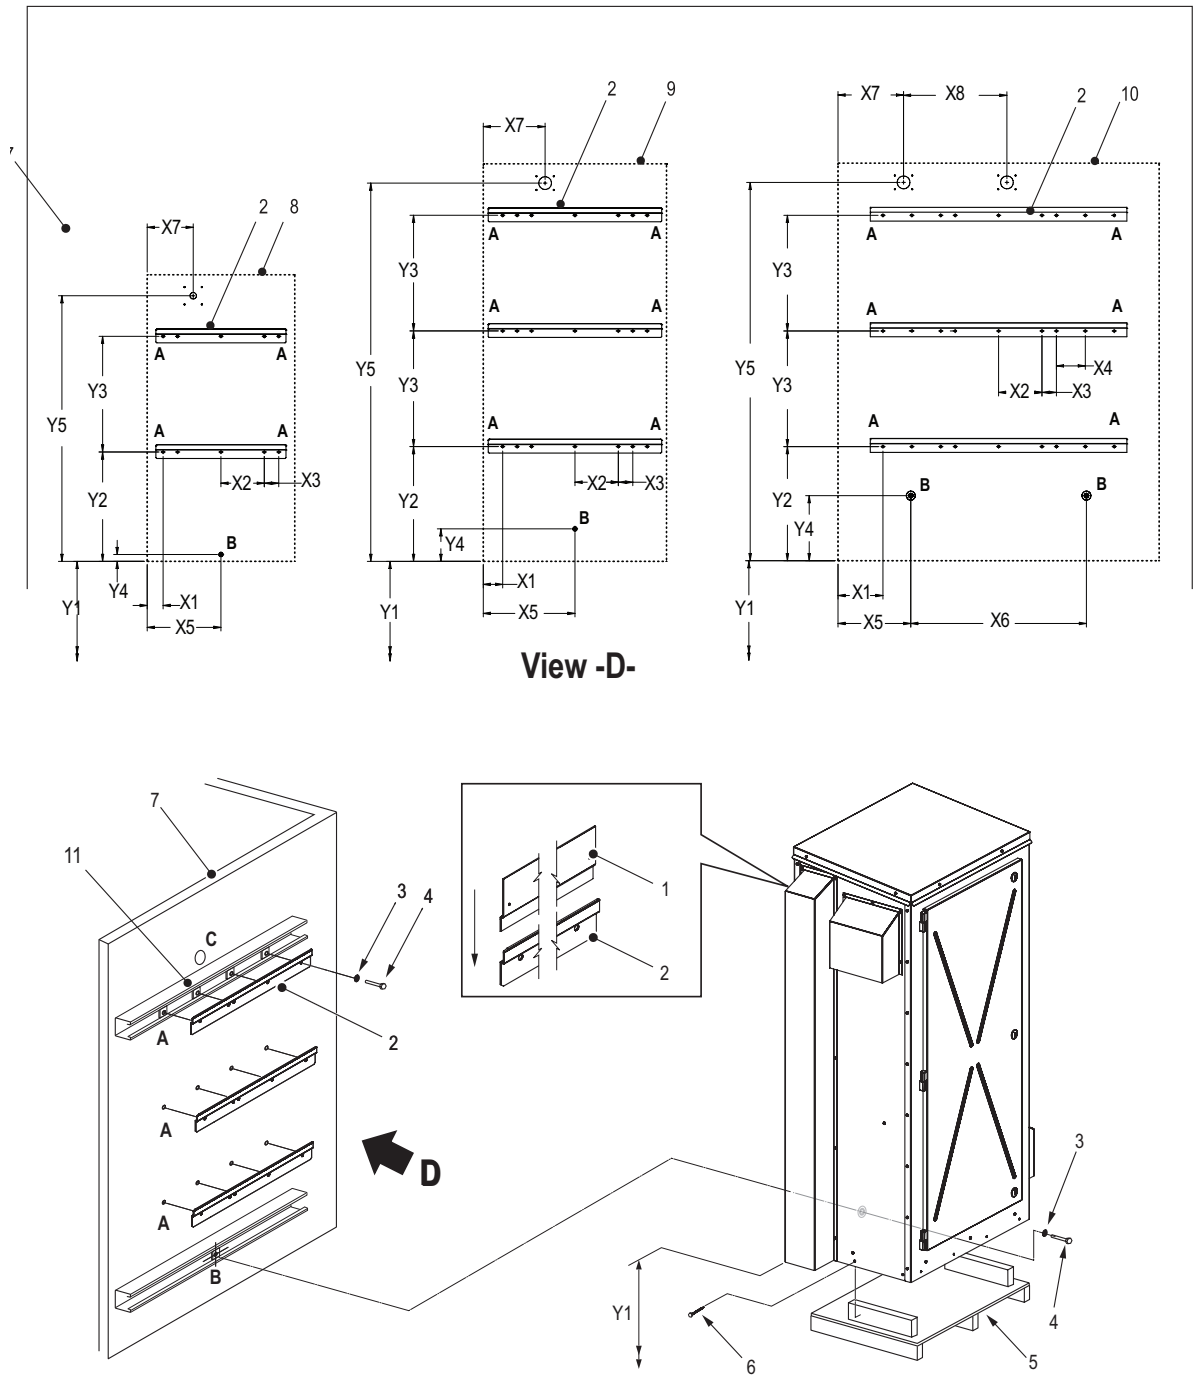

Figure 12: Exterior Wall Mounting
3. Mark the attachment points "A" and "B" at the desired position with the help of a level. Refer to Figure 12 on page 33 and Table 7.